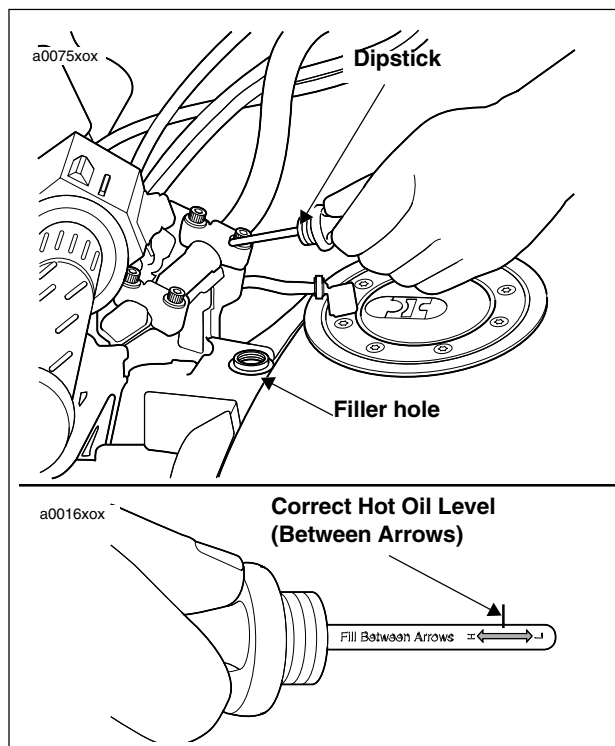

Figure 1-2. Dipstick Location/Engine Oil Level
2. See Figure 1-2. Unscrew dipstick from frame filler hole.
4. See Figure 1-2. Remove dipstick and note oil level.
- See Figure 1-2. See Table 1-3. Remove dipstick and refill with approximately 1.5 qts (1,419.5 ml) recommended oil at filler hole.